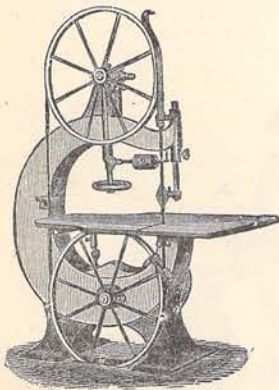

FIG. 22.
E. & T. GLEASON, north-west corner American street and Susquehanna avenue, Philadelphia, showed their latest improved *band saw*, (Fig. 22,) having a ring guide adapted to the finest blade, as well as the widest, giving the blade the same support on the back and sides. The *swivel box* on bottom shaft, as well as on the top shaft, enables the operator to run the blade on any part of the wheel without injury to the rubber covering on the wheel.